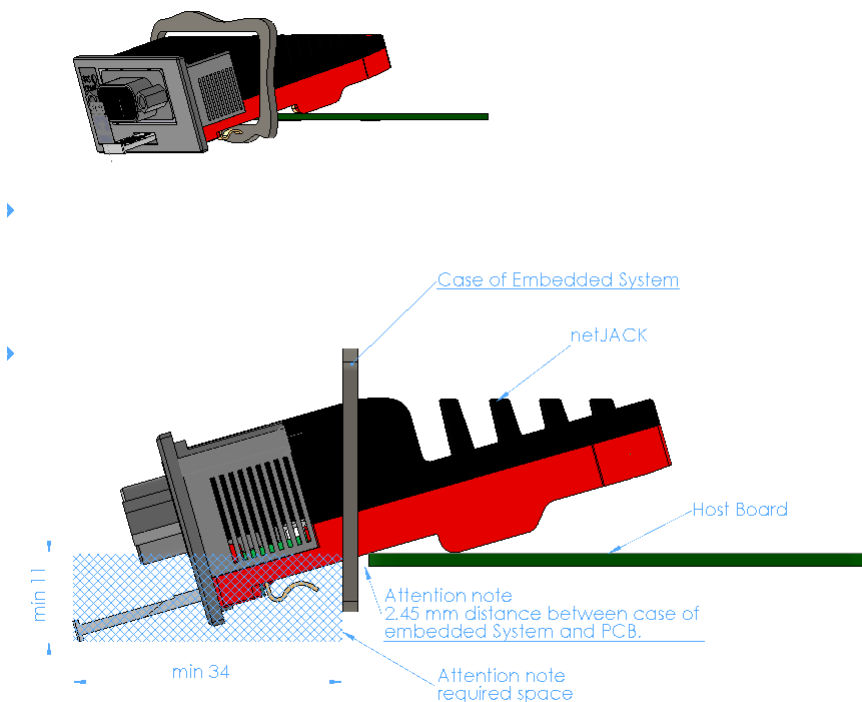

Figure 9: Necessary space requirements for mounting/demounting the netJACK communication module
Figure 9 below illustrates how to insert a netJACK Communication Module as embedded system into its host device and how much free space is required in front of the front panel of your device in order to “plug in” the netJACK module without any spatial problems.
The upper part of Figure 9 shows a perspective view on the cutout in the front panel of the device in which to mount the netJACK module.
- This free space must at least extend (in vertical direction) from the lower edge of the cutout in the front panel to 11 mm below this point. It is marked in *Figure 9* with square grid of light blue lines.